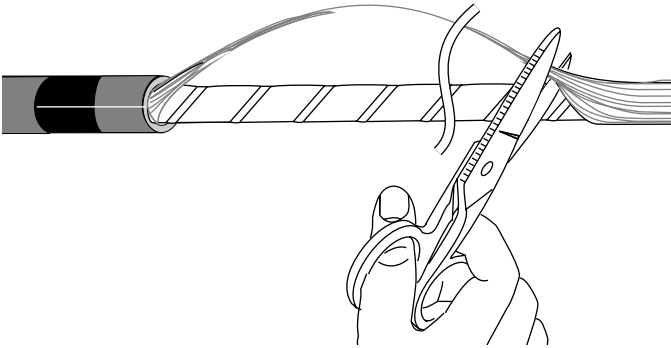

Figure 24
**7.2** Cut the yarn at the 15 cm (6 in.) point with a pair of scissors (Figure 24). Fold the 15 cm (6 in.) length of yarn back out of the way.